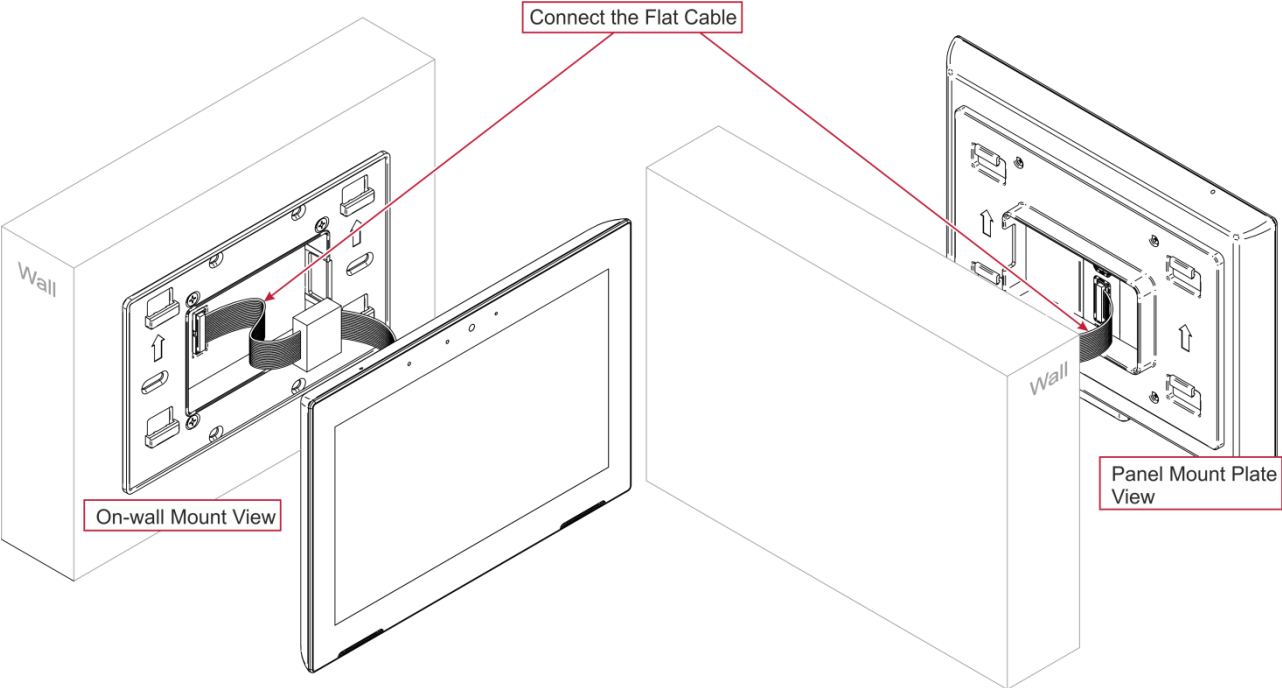

Figure 14: Connecting the On-wall Mount Flat Cable
- 5. After hanging the **KT-107** on the wall (Figure 14), tighten the two screws until the **KT-107** is securely fixed in place.